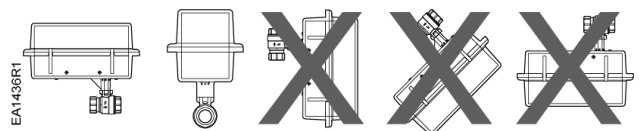

Figure 2. Acceptable Mounting Position.
- The weather shield provides NEMA 3R protection against rain, sleet and damage from external ice formation when installed in the orientation shown in Figure 2.
NOTE: The actuator and weather shield must be mounted vertically to ensure NEMA 3R rating. See Figure 2.